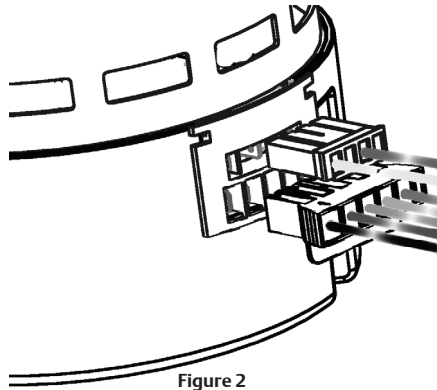

Figure 2
4. Connect the 5 speed and reversing harness to the motor connector as shown in Figure 2. See Page 14 for the positioning of the reversing connector to specify rotation.